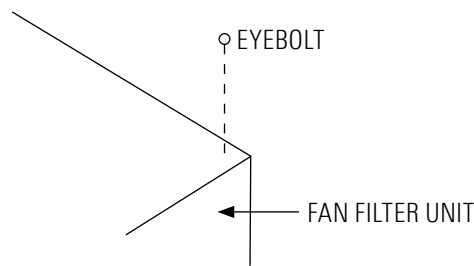

FIGURE 2 : HANGER SUPPORTS
Step 3. If using rigidly supported grid (usually 2" (50 mm) or wider), raise unit through ceiling and lower onto the gasketed grid. If using a flexible grid (typically supported with wires), the unit must be secured to an engineered support system with eyebolts, s-hooks, and chain. Screw the four eyebolts into the nutserts on the lid assembly before lifting into an overhead position. (See Figure 2.)